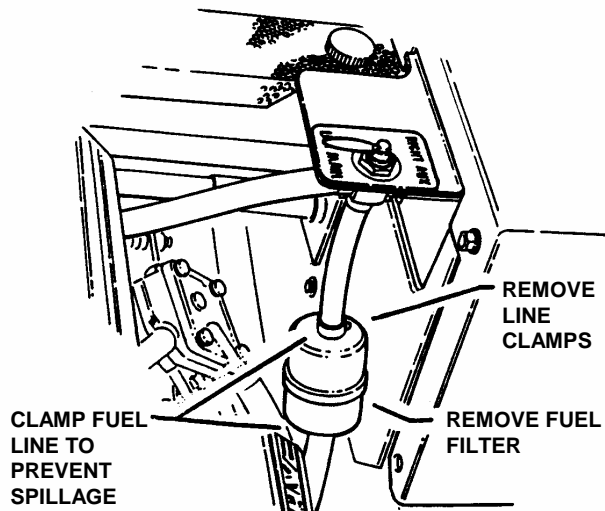

FIGURE 3.8
3. Install new fuel filter. Reinstall fuel line clamps. See Figure 3.8.